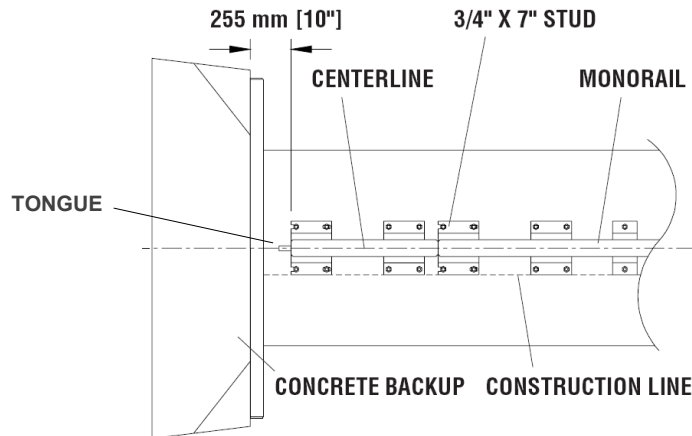

Figure 52
Locate the Tension Strut Backup on foundation with side of Monorail on the construction line on page 46 (Figure 52). Verify that any applicable Transition Panels fit properly before anchoring Backup. Drill anchor holes in foundation using the Backup as template. Anchor the Backup to the concrete foundation using the approved adhesive kit supplied with the QuadGuard® (p. 12).
A) Monorail Assembly for Concrete Backup (Figure 52).
Locate Monorail on foundation with side of Monorail on the construction line and rear edge of Monorail foot forward of front face of Concrete Backup (Figure 52).
Orient the Monorail so that the Monorail tongues face the Concrete Backup (Figure 52).